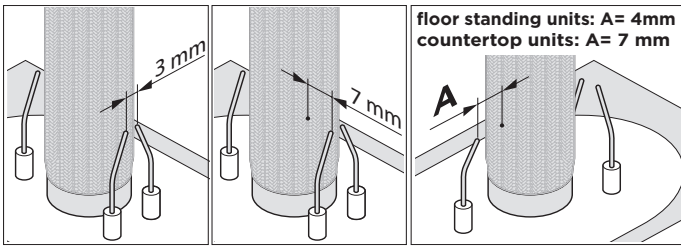

Figure 9
- e) Once you have removed the torch, replace the three electrodes per torch ensuring they are fitted with the proper gap as outlined below (please see Figure 9 to check the proper electrode distances):